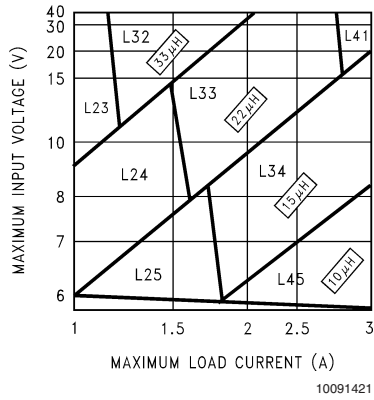
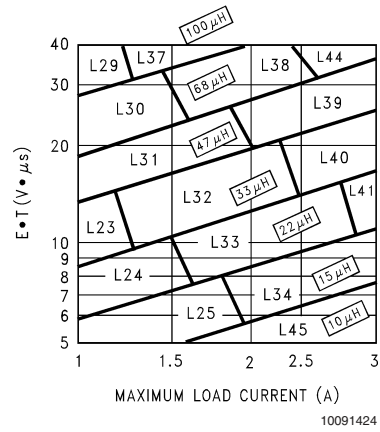

FIGURE 3. LM2676-3.3
FIGURE 6. LM2676-ADJ
**Step 3:** Determine the inductor required by using one of the four nomographs, *Figure 3* through *Figure 6*. Table 1 provides a specific manufacturer and part number for the inductor.
**Step 5:** Determine an input capacitor from Table 4 for fixed output voltage applications. Use Table 2 to find the specific capacitor type. For adjustable output circuits select a capacitor from Table 2 with a sufficient working voltage (WV) rating greater than  $V_{in\ max}$ , and an rms current rating greater than one-half the maximum load current (2 or more capacitors in parallel may be required).
**Step 3:** Use the nomograph for the 3.3V device, *Figure 3*. The intersection of the 16V horizontal line ( $V_{in\ max}$ ) and the 2.5A vertical line ( $I_{load\ max}$ ) indicates that L33, a  $22\mu H$  inductor, is required.
**Step 3:** To use the nomograph for the adjustable device, Figure 6, requires a calculation of the inductor Volt•microsecond constant (E•T expressed in V•μS) from the following formula:
Using Figure 6, the intersection of 27V•μS horizontally and the 2A vertical line (Iload max) indicates that L38, a 68μH inductor, should be used.
**Important Note:** When using the adjustable device in low voltage applications (less than 3V output), if the nomograph, Figure 6, selects an inductance of 22μH or less, Table 6 does not provide an output capacitor solution. With these conditions the number of output capacitors required for stable operation becomes impractical. It is recommended to use either a 33μH or 47μH inductor and the output capacitors from Table 6.